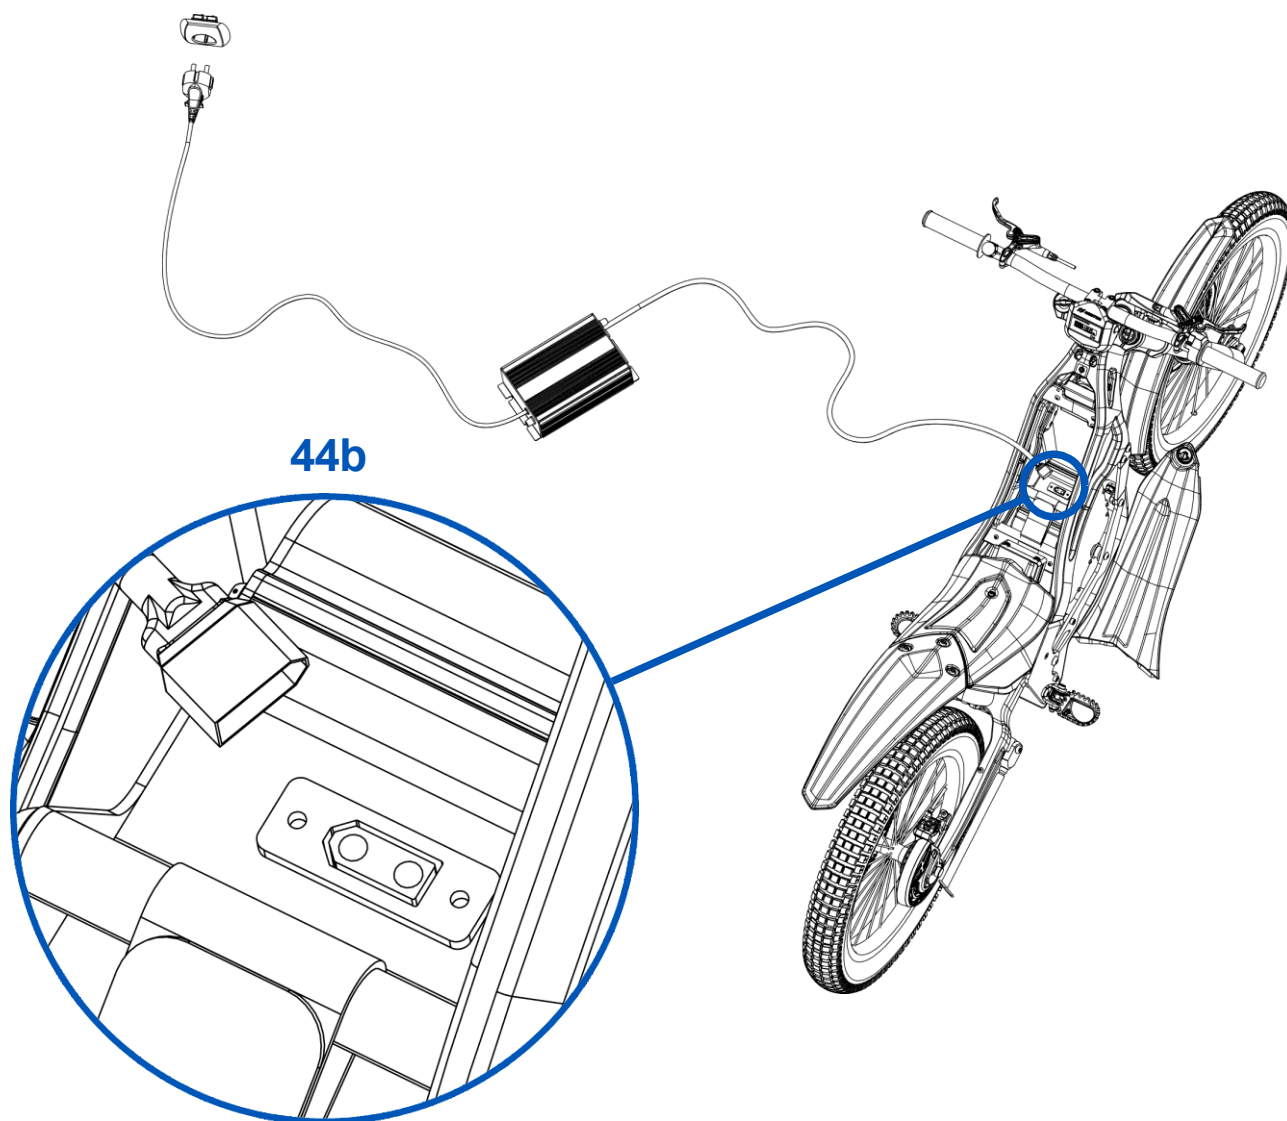

Fig. 44
- 5- Then, plug the charger cable into the domestic mains (Figure 44).
6- Finally, connect the charger cable with its two-pin connector to the battery. Correctly position the two-pin plug (Figure 44b) by aligning it with the slot and insert it (Figure 44).